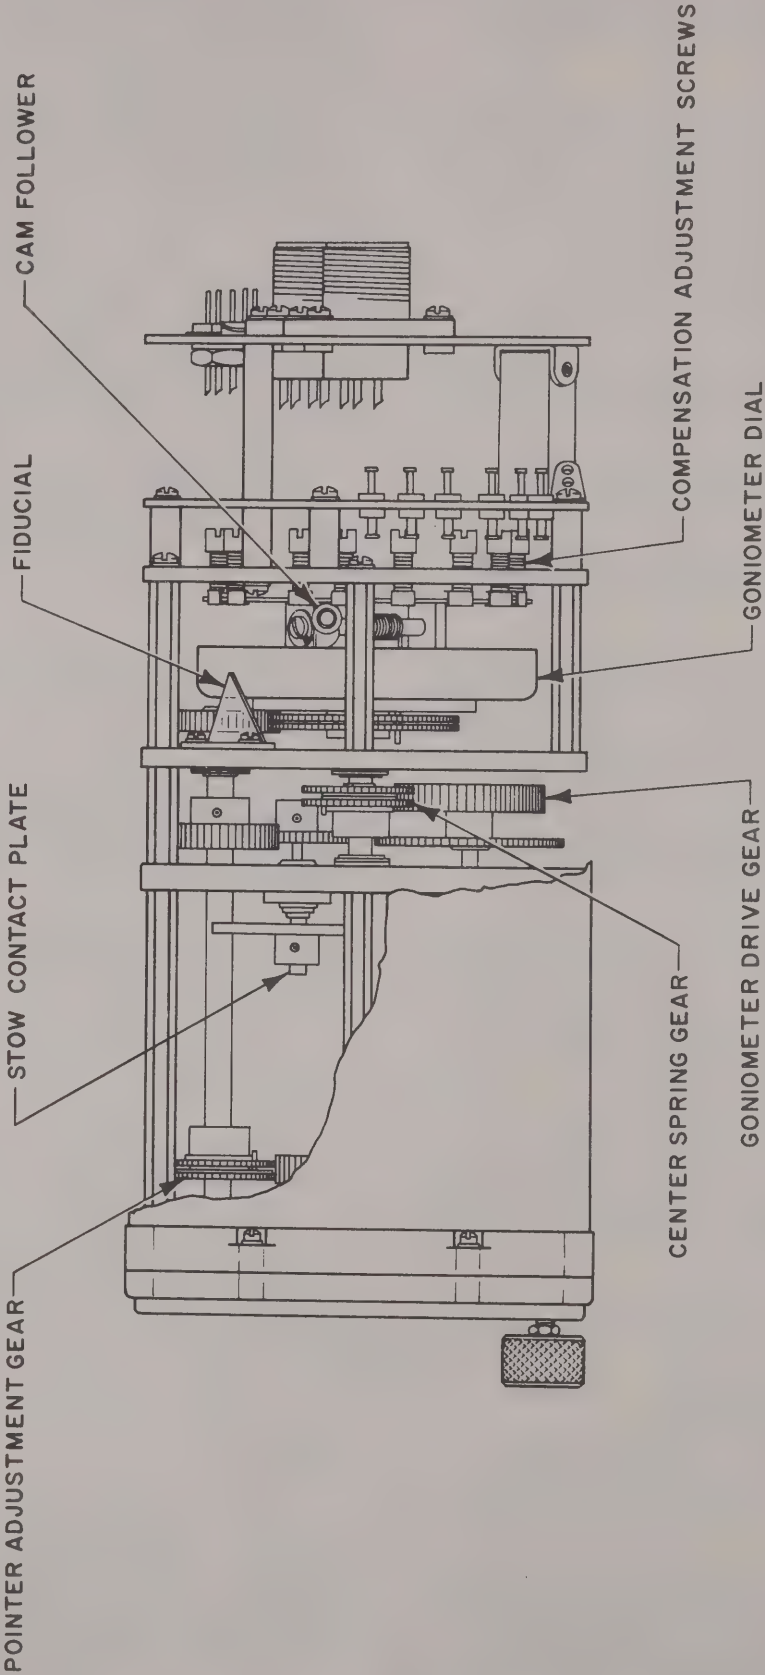

Figure 4-5. IN-346C Goniometer-Indicator, Alignment Points
Step 1. Refer to Figure 4-5 or 4-5A. Set all compensation adjustment screws to their maximum counterclockwise positions. Using VAR control, set 0° on dial under index. Using goniometer drive gear, set cam follower over 45° compensation adjustment screw. Note pointer indication.